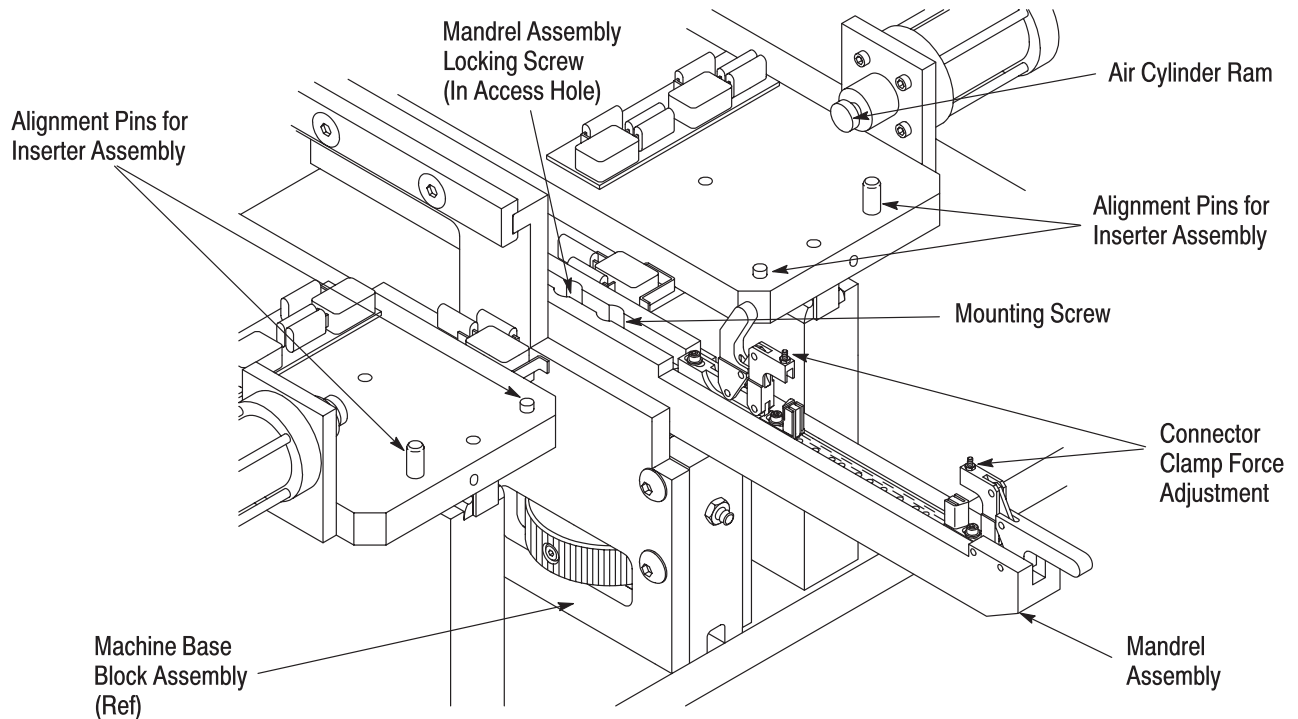

Figure 2
#### 3.1. Mandrel Assembly (Figure 2)
#### 3.2. Inserter Assemblies (Figures 2 and 3)
3. Using a 5/32-in. hex wrench, loosen the mandrel assembly locking screw, which is located in the center access hole. Refer to Figure 2.